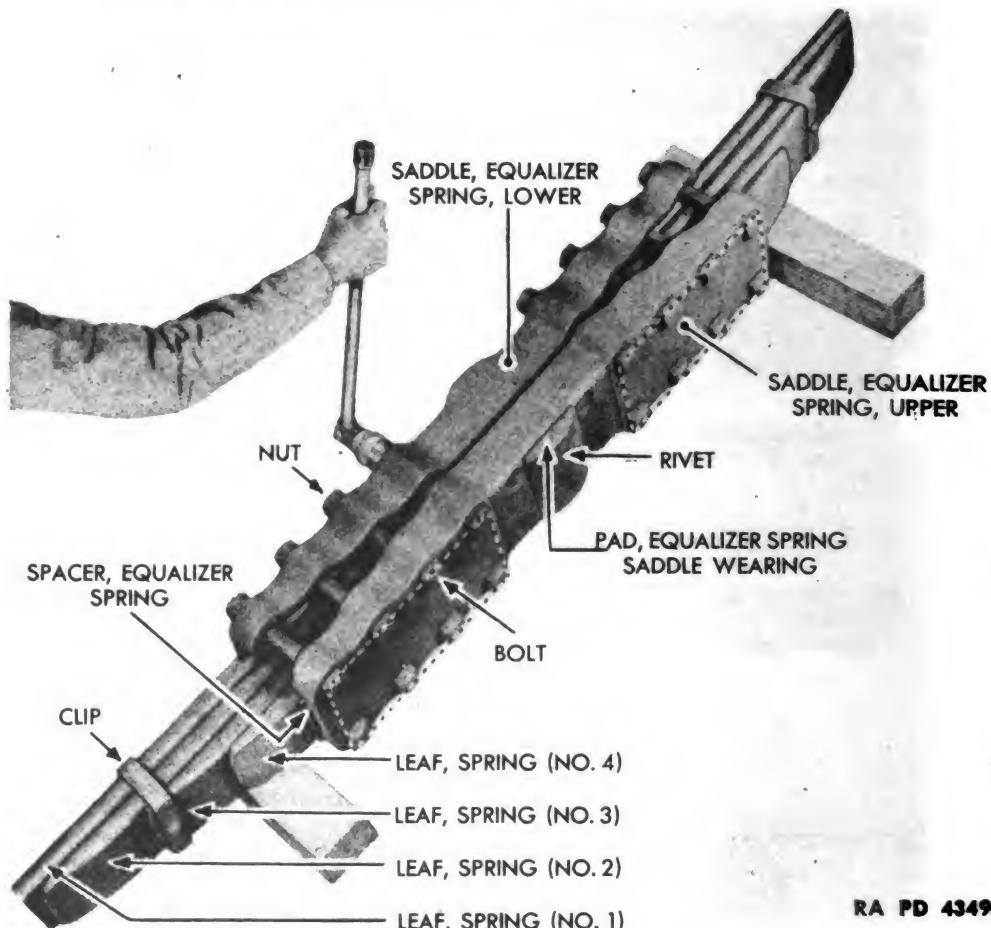

Figure 135 – Equalizer Spring Disassembly
- (1) REMOVE UPPER AND LOWER EQUALIZER SPRING SADDLES (fig. 135).
(2) REMOVE EQUALIZER SPRING SADDLE WEARING PAD (fig. 135).
(4) DISASSEMBLE SPRING LEAVES (fig. 135).
(3) ASSEMBLE SPRING LEAVES (fig. 135).
(5) INSTALL EQUALIZER SPRING SADDLE WEARING PAD (fig. 135).
(6) INSTALL UPPER AND LOWER EQUALIZER SPRING SADDLES (fig. 135).